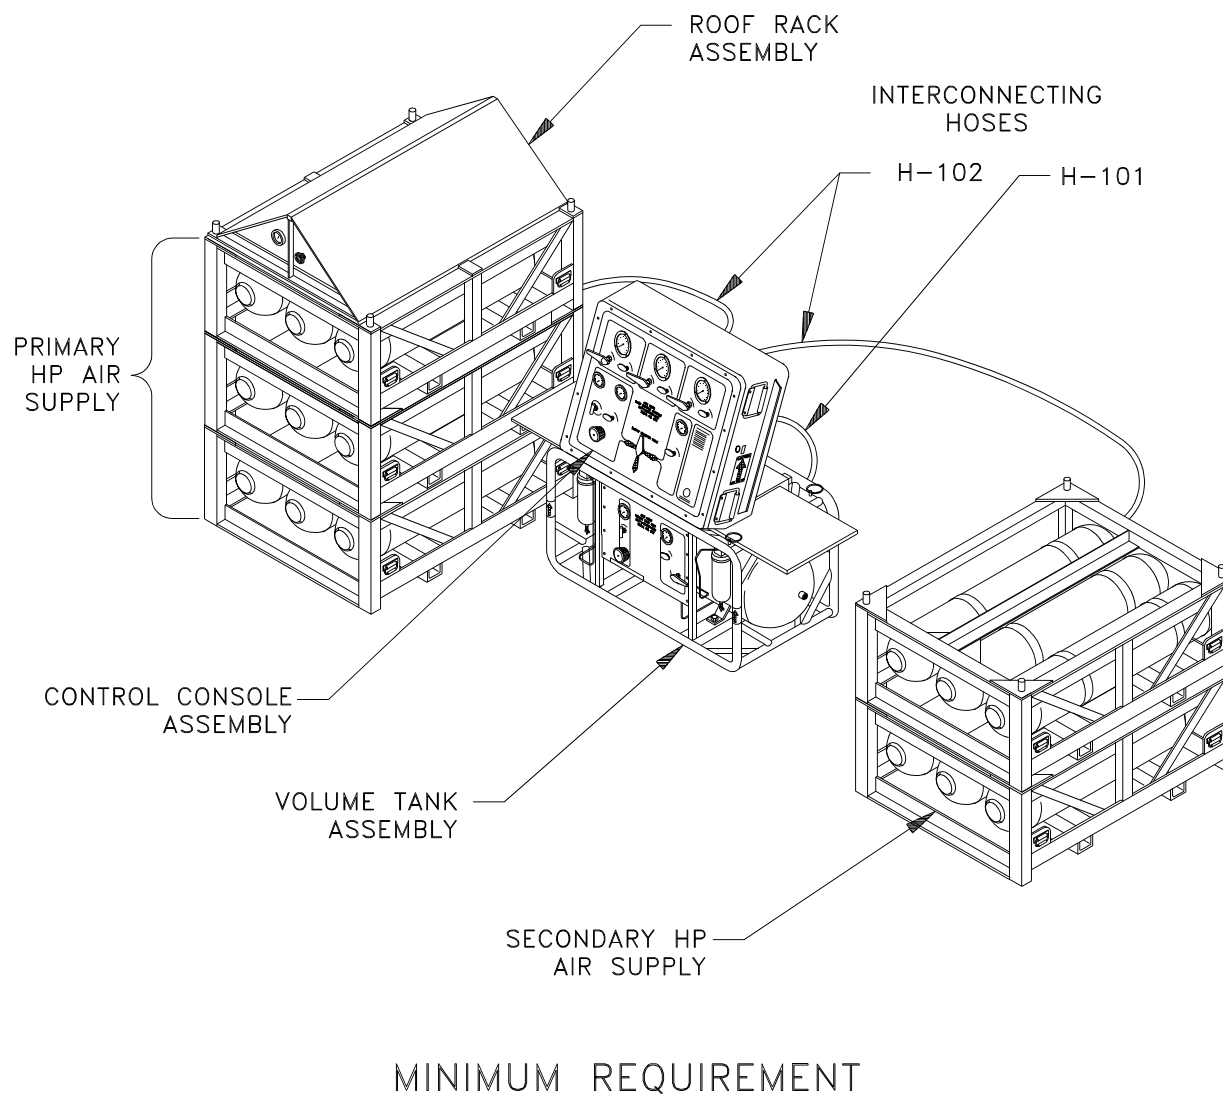
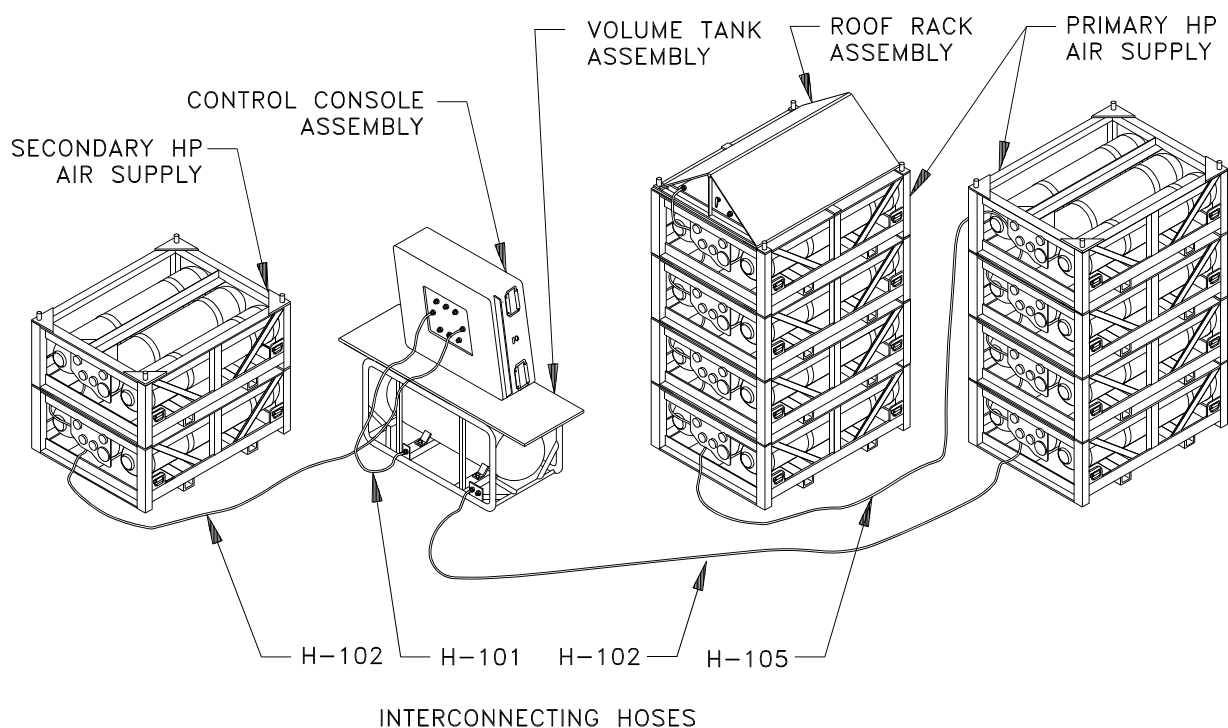

Figure 1-4. Lightweight Dive System (LWDS) MK 3 Mod 0, Configuration 3
Figure 1-5. Multiple Stacks of Flask Racks, Configuration 3
1.3.3 CONFIGURATION 3. Configuration 3 (Figure 1-4) is used for dive missions limited to a maximum dive depth of 190 fsw. The primary HP air supply consists of a minimum of three vertically stacked flask rack assemblies, each containing three HP composite flasks. A maximum of four flask rack assemblies may be placed in one stack. If more than four flask rack assemblies are required for the dive mission, a second stack of flask rack assemblies may be added (Figure 1-5). The stacks are interconnected and the roof rack assembly is placed on the last stack of flask rack assemblies. The flask rack assemblies within each stack are interconnected and cascaded, which enables a single pressure reading to be taken from the roof rack assembly. The roof rack assembly enables the flasks to be charged before, during, or after a mission. The HP air flows to the volume tank assembly where it is reduced to LP air through an HP regulator. The LP air is then stored in the volume tank assembly where it is filtered before passing to the control console assembly.
1.4.2 PRIMARY HP AIR SUPPLY. The primary HP air supply consists of a minimum of three vertically stacked flask rack assemblies, each containing three interconnected composite flasks. Each flask contains 191 standard cubic feet (scf) of air at 3,000 psig. The flask rack assemblies are interconnected and cascaded, which enables a single pressure reading to be taken from the roof rack assembly and also enables the flasks to be charged before, during, or after a mission. Additional flask rack assemblies may be added as required, but each stack of flask rack assemblies shall not exceed four high. If multiple stacks are used, the stacks are interconnected by hose assemblies and the roof rack assembly is placed on the last stack (Figure 1-5).